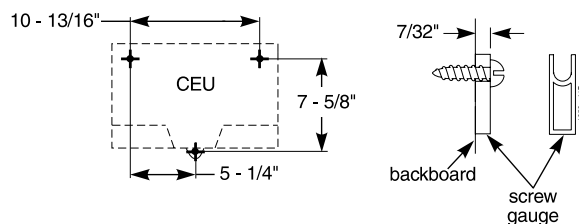

FIGURE 2
1. Locate CEU mounting screws. Drill holes (2) in backboard using a 1/8" drill bit. Refer to mounting dimensions in Figure 2 (or use template, if installed).
2. Install CEU mounting screws (2) in holes. See Figure 2. Use screw gauges to set proper screw depth. (Screws & gauges are in plastic packet).
4. Drill lower CEU screw hole using a 1/8" drill bit. See Figure 2. Install and tighten screw.